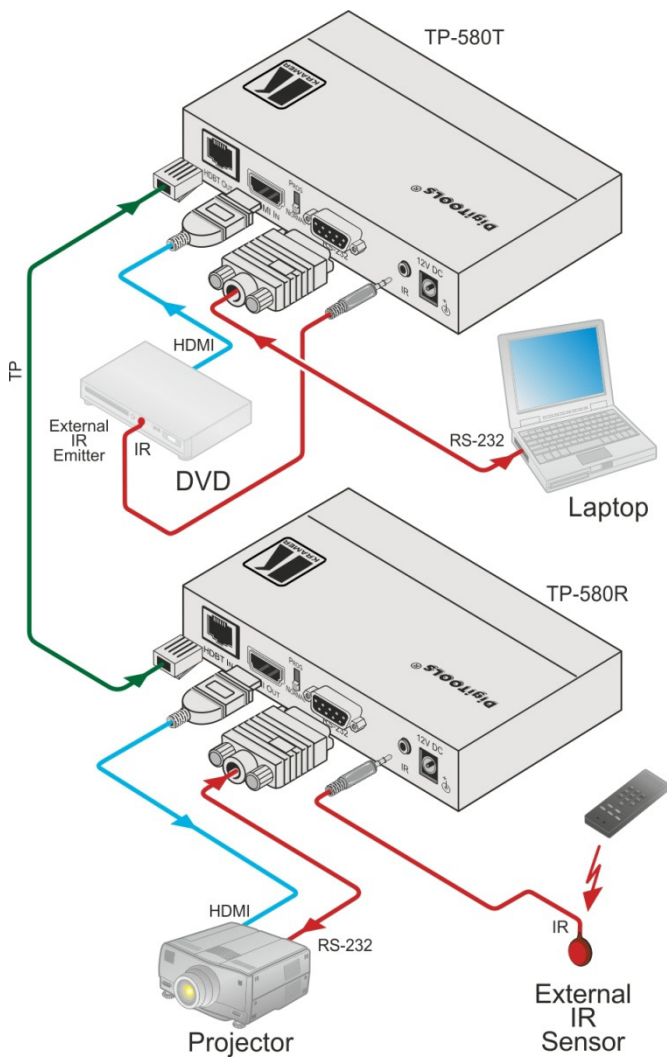

Figure 3: Connecting the TP-580T/TP-580R Transmitter/Receiver Pair
You can use the **TP-580T HDMI Line Transmitter** and the **TP-580R HDMI Line Receiver** to configure an HDMI transmitter/receiver system, as shown in the example in Figure 3.
5. 12V DC power adapter to the power socket and connect the adapter to the mains electricity (not shown in Figure 3).
10. 12V DC power adapter to the power socket and connect the adapter to the mains electricity (not shown in Figure 3).